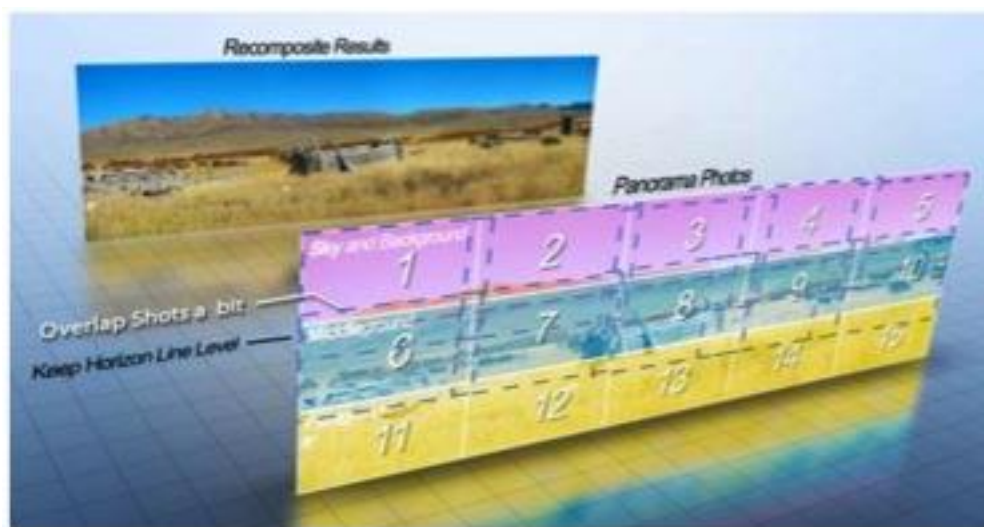

Figure F-4 – Example of Grid Shot Method for Photographing Sites
- b. If available, utilize the panorama setting when capturing images. Review the shot after taking it and if the panoramic view does not capture the appropriate image (images are too skewed, narrow, etc.), utilize grid shots. Grid shots begin at the top left corner of the photo area and continue to the bottom right corner. Individual photos are captured from the same vantage point with overlapping areas on all sides and with a straight horizon line. The photos are later compiled into one image (Figure F-4 below) using photo editing software.